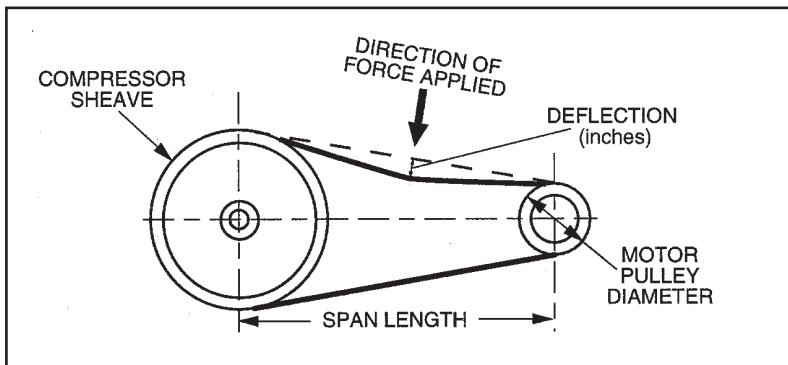
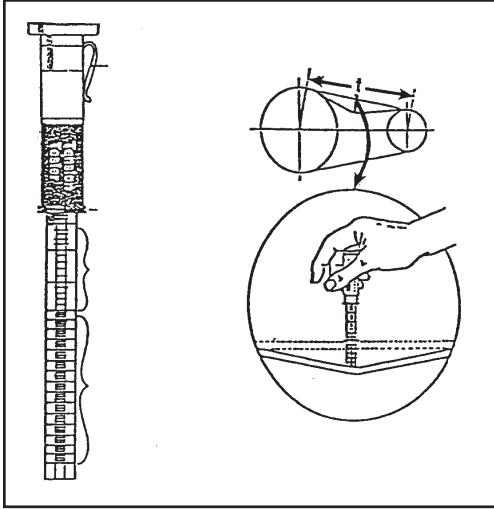

Fig. 5-1
Fig. 5-2 Belt Tension Gauge Pix 1153
Step 1 Measure the span length of the drive. (Refer to **Fig. 5-1, Setting Belt Tension.**)
Step 4) At the center of the span, perpendicular to the belt, apply pressure to the outer surface of the belt with a belt tension gauge (refer to **Fig. 5-2, Belt Tension Gauge**). Force the belt to the predetermined deflection (refer to **Step 2** above). Record the reading on the belt tension gauge and compare to the chart following **Fig 5-1**. The deflection force reading should be within the minimum and maximum values shown. Adjust belt(s) accordingly. New belts should be tensioned to the values listed under "Initial Install".